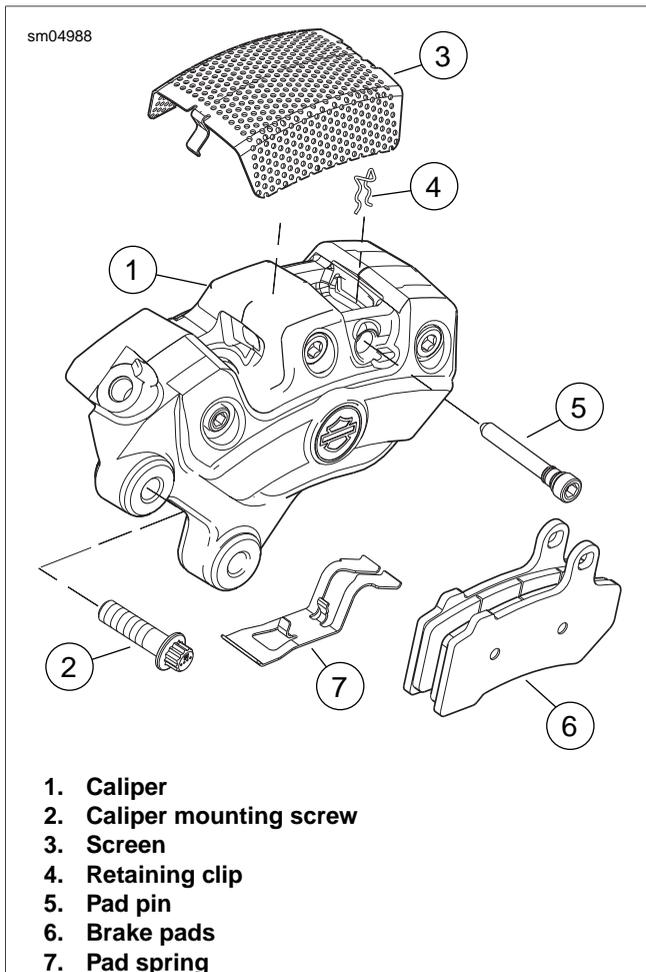

Figure 2-47. Front Brake Caliper Assembly
3. Remove two caliper mounting screws (with front wheel speed sensor cable clip/bracket if left side caliper of ABS equipped motorcycle). Remove caliper from brake disc. See Figure 2-47.